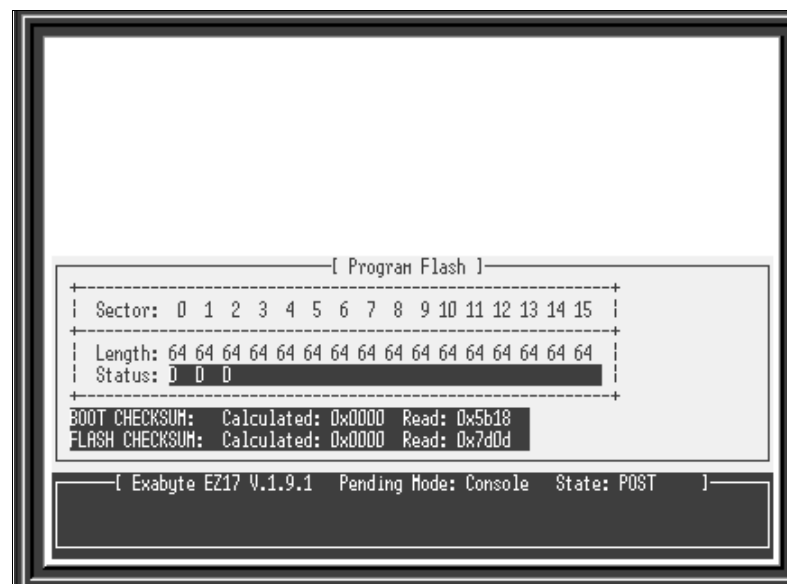

Figure 5-3 Console Flash screen
4. From Console, type `flash` and press **Enter**. This displays the Flash screen, as shown in Figure 5-3.